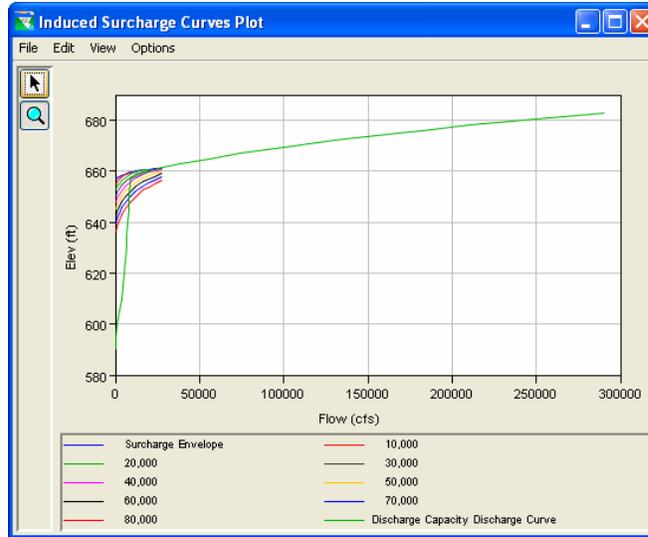

Figure 11.24 Plot of Computed Induced Surcharge Curves (with the Discharge Capacity Discharge Curve)
- To see a **plot** containing the computed **Induced Surcharge Curves** (Figure 11.24) based on the data you have entered, double-click on the mini-plot located to the right of the table (or, you can right-click on the mini-plot and select **Show popup**).